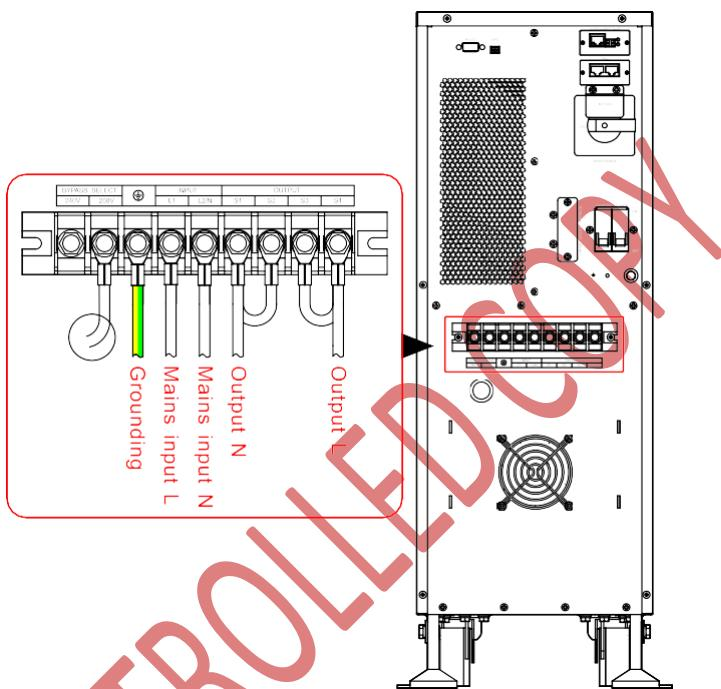

Figure3-10 Wiring diagram of UPS (120Vac)
Step 3 The wiring diagram of UPS as shown in Figure3-10 and Figure3-11.
1. UPS wiring must be strictly in accordance with Figure3-10 or Figure3-11 to avoid short circuit.